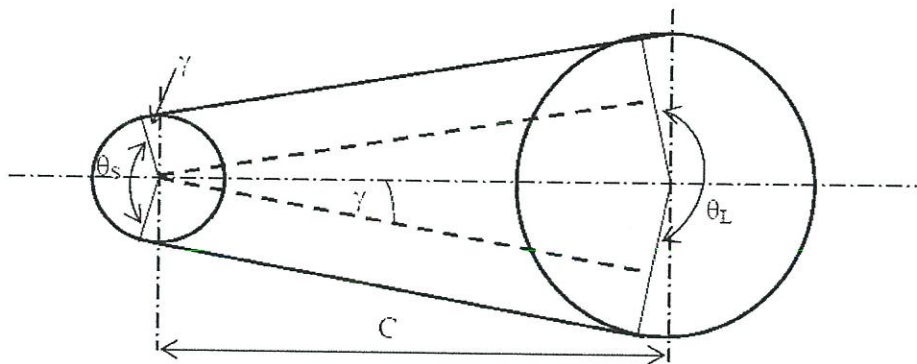

Figure Q2(c)
- (c) As shown in **Figure Q2(c)**, a multiple V-belt drive with a groove angle of 30° is required to transmit 25.5 kW from a pulley 175 mm in diameter to another pulley 313 mm in diameter rotating at 202 rev/min. The coefficient of friction between the belt and the pulley is 0.25 and the maximum permissible belt tension is 500 N for each of the ten belts used.
- Q3** (a) Explain about the static balancing and dynamic balancing and give two (2) examples for each type of balancing. (6 Marks)